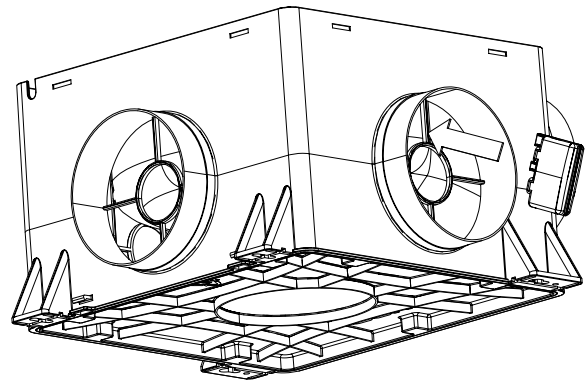

Figure 14: snap the CO₂ box sensor into the duct port
3. Secure the CO₂ Box sensor from the outside in the desired duct port by clicking it into place on the rib closest to the motor plate (Figure "Figure 14: snap the CO₂ box sensor into the duct port" on page 10: Clicking the CO₂ Box sensor into the duct port). To do this, make a tilting movement by first tightening the lower and then the upper clamp.
4. Pass the cable of the CO₂ Box sensor through the opening on the inside of the casing at the level of the corresponding duct port. Then pass the cable of the CO₂ Box sensor through the relevant opening (marked with 'sensor cable') of the motor plate according to the diagram shown below in Figure 14: four options for wiring a maximum of 1 CO₂ Box sensor to the circuit board.